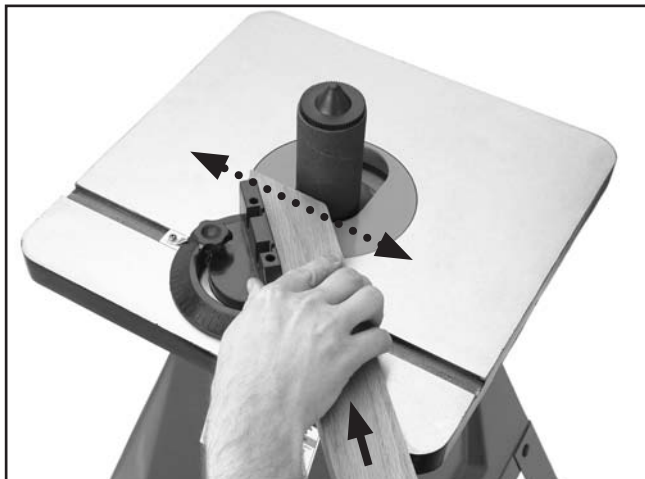

Figure 28. Workpiece placement.
6. Hold the workpiece flat on the table and against the miter gauge, and begin sliding the gauge back and forth in the slot on the table. At the same time, gradually move the workpiece into the sanding drum (**Figure 28**).